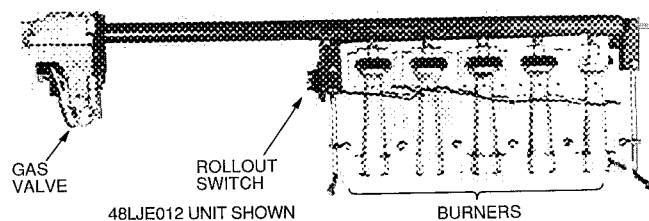

Fig. 23 — Burner Tray Details
10. Slide the burner tray out of the unit (Fig. 23).